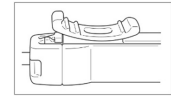

Figure 10: Forward Lock Engaged
- When the suction vent slider is advanced beyond the distal stop, it engages the forward locking feature and the suction tube is locked in the fully extended position. In this position, the irrigation spray head is obstructed by the suction tube and the device acts solely as a suction instrument (Figure 10).